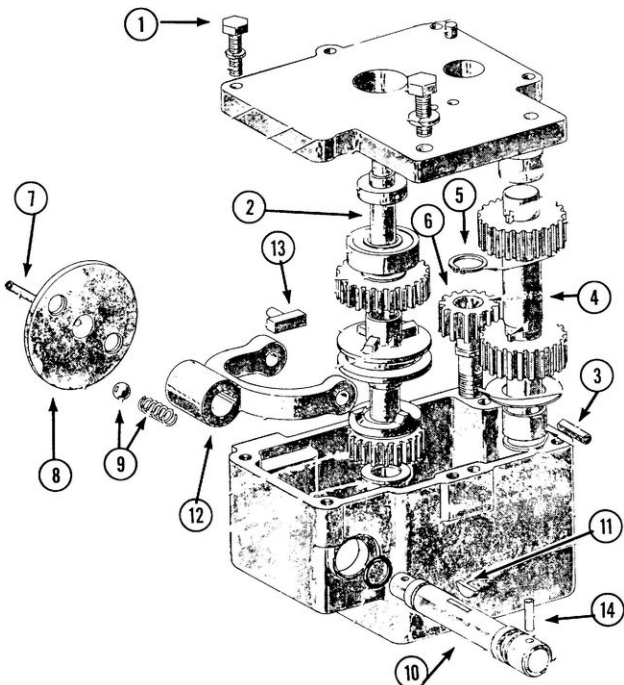

**Fig. 12-6**
**NOTE:** Some mixers have a connector sleeve (Fig. 12-6) which does not require that the spirol pin be removed.
**NOTE:** If the mixer is equipped with a connector sleeve like shown in Fig. 12-6 it will be necessary to align the spirol pin in the yoke shaft with the groove while lowering the gear box into place.